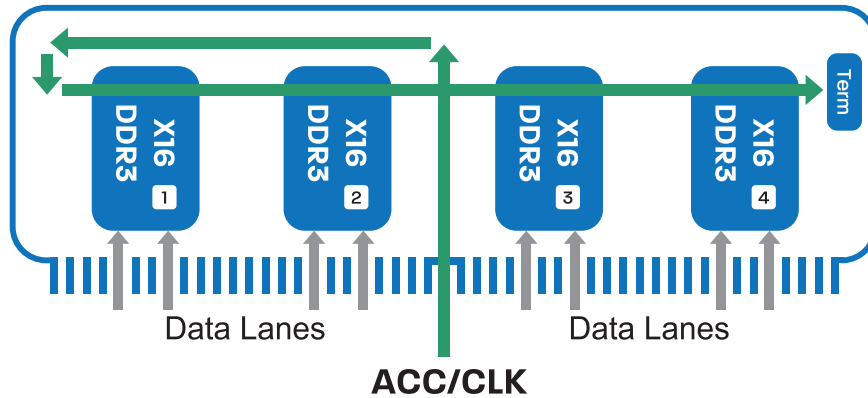

Figure 1 – Basic Routing Paths of SO-DIMM and DIMM Memory Modules
AMD's memory layout guidelines are based on memory module topologies. Both DIMM and SO-DIMM modules fundamentally utilize the same topology. For modules, Address/Command/Control/Clock (ACC/CLK) routing is based on what is called "flyby". See Figure 1. This means these signals are connected to the memory device on the far edge of the board first and then connected in succession to each device and terminated at the end. On the modules, the trace length between devices is tightly controlled to create a uniform timing delay device to device. The termination means that these signals are of the incident wave transmission type. From a propagation standpoint each successive device sees the transition on the signals later and later. This aspect of the "flyby" must be accounted for in the DRAM controller using interface training. The JEDEC standard for memory devices specifies one training procedure and how this training is supported in the DDR3 devices. AMD DRAM controllers support this training and two additional training procedures to establish the relative timing differences for each device. This training will be covered in more detail later.
- 禪 From Figure 1 the DDR3 device 1 has the shortest read/write time and DDR3 device 4 has the longest read/write time.
The AMD DRAM controller issues a command to the DDR3 memory devices to enter write leveling mode. In this mode the DRAM controller drives the clock and all DQS signals with an initial delay on the DQS set by the seed value. With DIMM and SO-DIMM modules the clock trace is always quite a bit longer than the DQS due to its routing on the module itself (Figure 1). Without any programmed delay, the DQS will arrive at the DDR3 memory device before the clock. Starting with the seed value delay for DQS, the DRAM controller will output a rising clock followed by a rising DQS. The DQS signal is used by the DDR3 memory device to sample the clock signal. Memory data (DQ) is used to output the sampled value. If the clock signal sampled low, that means that the DQS arrived at the DDR3 memory before the rising clock edge. If sampled high, DQS arrived after the rising clock edge. Since the DQS signal is shorter and hopefully the seed programmed skew is not too much, the DRAM controller will see a low on the DQ. It will then add more delay and try again. The DRAM controller will iterate until it sees a high on the DQ, and when that happens the DRAM controller now has established the timing skew between DQS and clock. Most DDR3 memory devices only use the least significant bit of each byte lane to output the sample but the AMD DRAM controller looks for a transition on any bit of a byte lane. This allows the embedded designer to route any bit of a byte lane from the AMD processor to any bit on a byte lane on the DDR3 memory device, or to put it another way, to swizzle the byte lane connections.
- b. Being conservative, the maximum length on the motherboard is specified to be 101.6mm, plus the additional length of the UDIMM routing. See Figure 1.